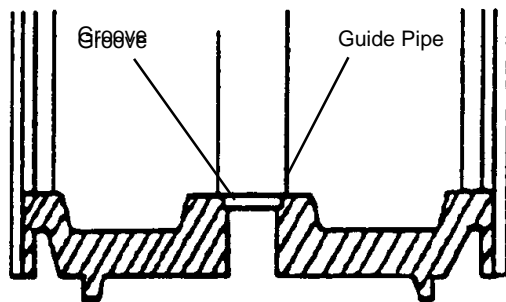

Figure 2. Reassembling the Drum Assembly
1. (Figure 2): During reassembly, ensure that the Guide Pipe fits snugly in the groove of the hub.